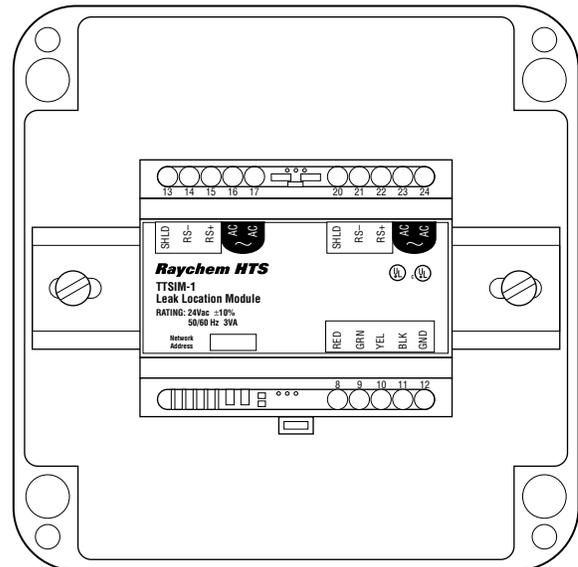

Figure 2. NEMA 4x Enclosure
- A typical outdoor or harsh environment installation will require three holes in the JBS: one for inbound power and telemetry, one for outbound power and telemetry and one for the sensor cable leader. See Figure 2.